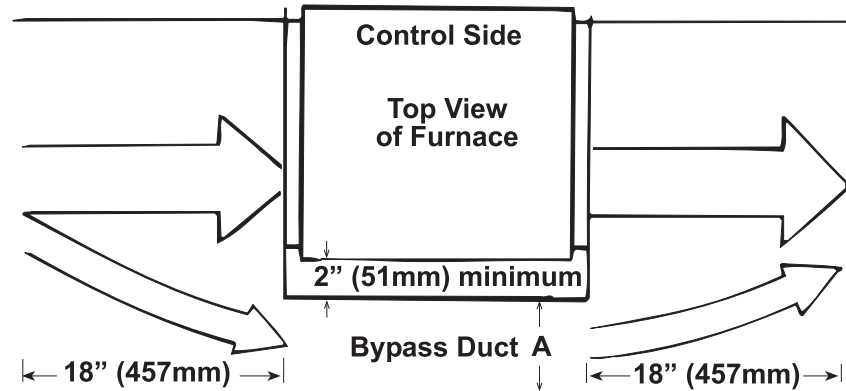

Figure 13. Bypass Duct Dimensions
When the air throughput CFM is greater than desirable or permissible for the unit, a bypass duct (see Figure 13) may be constructed. Locate the bypass duct on the side of the furnace opposite the controls and 2 inches from the heat exchanger side panel. Extend the bypass duct 18 inches (457 mm) beyond the furnace on both the inlet and outlet ends. Determine the correct size of the bypass duct as follows:
*See **Figure 13**.